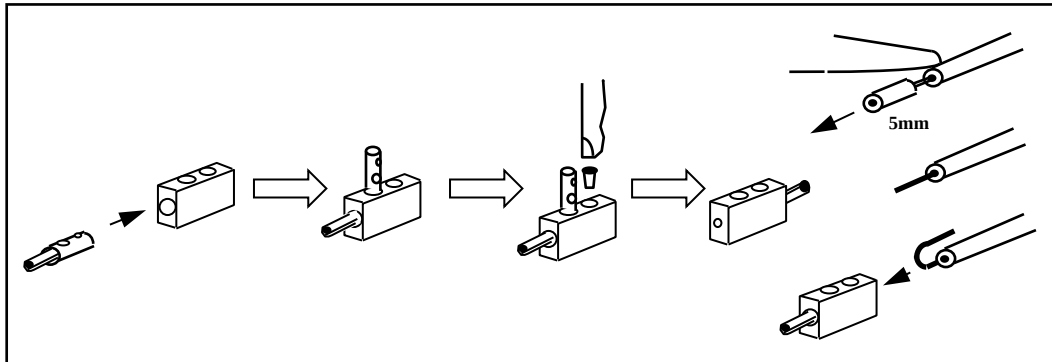

Figure 1-2
- c) Bend the ends of the wire strands back, so that they are flat against the insulation (see figure 1-2).
- d) Insert the prepared wire end (with the strands folded over the insulation) into the plug end (see figure 1-2).